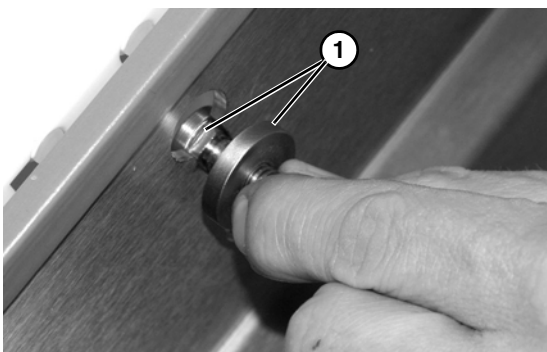

Figure 17
1. Insert carriage bolts with spacers (**Figure 17, item 1**) into slotted holes in conveyor side.